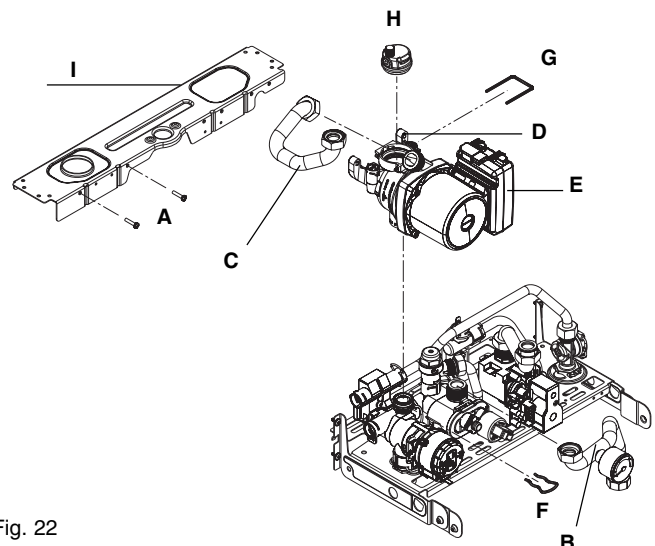
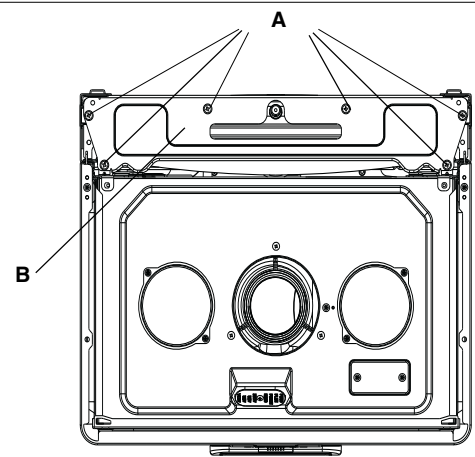

Fig. 22
Fig. 35
6.5 PUMP ASSEMBLY (fig. 22)
6.7 BOTTOM AUTOMATIC AIR RELEASE VALVES (fig. 22)
6.24.1 EXPANSION VESSEL REMOVAL (with sufficient clearance above, fig. 22 & 35)
Carry out component removal procedure as described in 6.4. Disconnect the flue from the appliance. Disconnect the expansion vessel from the flexible expansion pipe. Disconnect the flexible expansion pipe from the vessel. Unscrew the nut that secures the vessel to the frame (I, fig. 22). Locate and remove the 6 screws (A, fig. 35) that secure the vessel top holding plate (B, fig. 35), remove the plate.